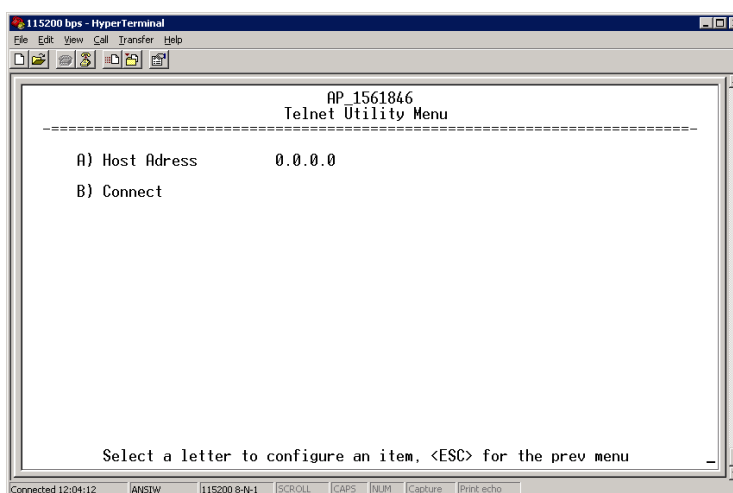

Figure 3-104. Telnet Utility Menu
- **Telnet Utility**—A submenu for opening Telnet connections to network devices (Figure 3-104 on Page 127).